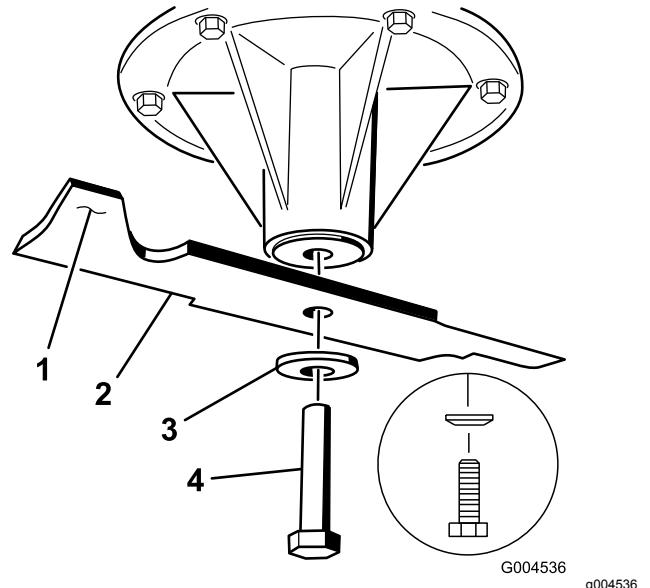

Figure 102
1. Install the blade onto the spindle shaft (Figure 102).
2. Install the spring disk and blade bolt (Figure 102).